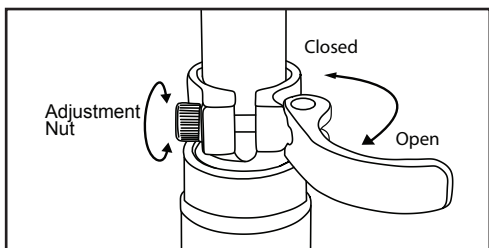

Fig. 24: Opening and adjusting a quick release.
1. Open the seatpost quick release lever (Figs. 24 & 25).
- When you are satisfied with the height of the seatpost, close the seatpost quick release lever. The tightness of the lever is adjusted by rotating the adjustment nut opposite the quick release lever. Turn the nut by hand to adjust the tension while holding the lever stable (Fig. 24).